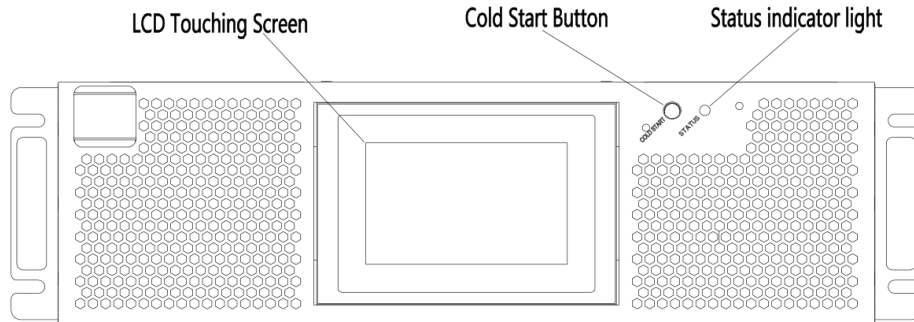

Figure5-6 Position of the battery cold start button
2. Press and hold the red button of battery, as shown in Figure 5-6, battery supply power to UPS.